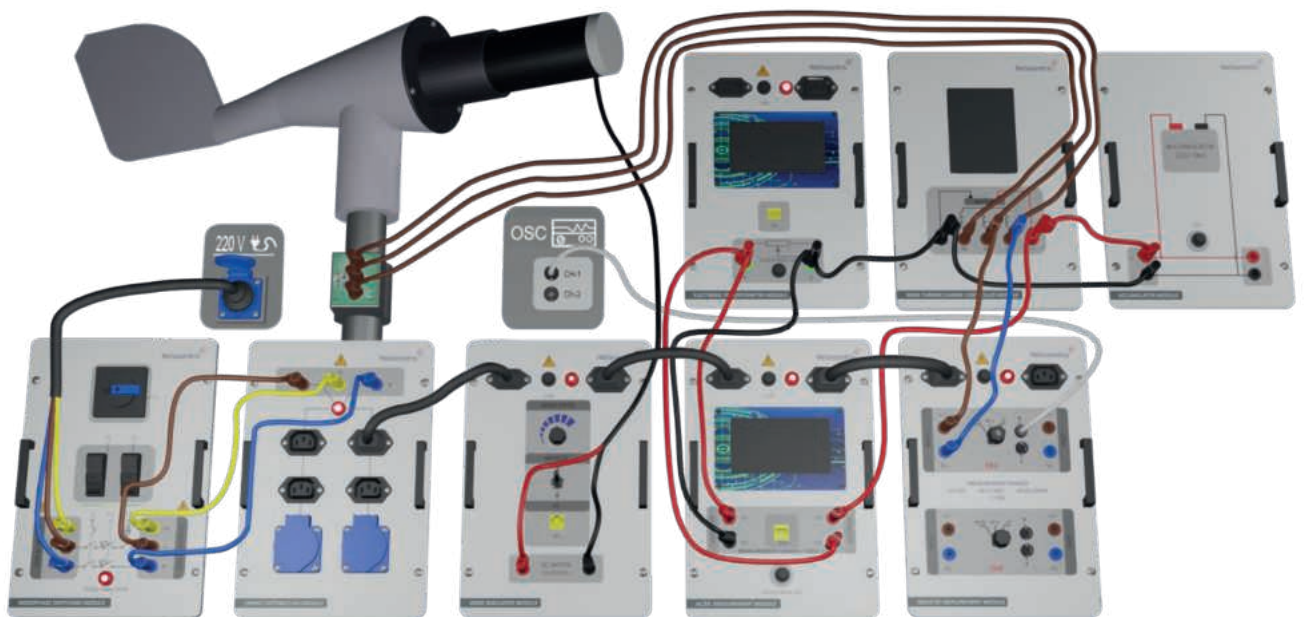

Figure-76. Installation Image of Examination of Variable Load Wind Turbine Charge Control System with Battery
1. Make the connection as shown in Figure-76. Ensure that the caster of the wind turbine is locked to prevent movement.